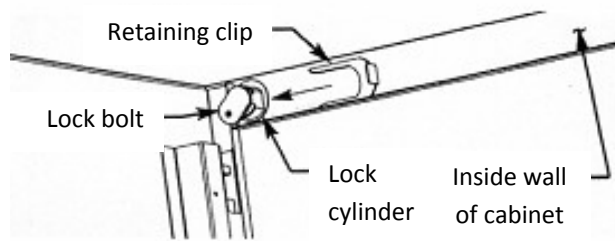

Figure 2
4. Hold lock cylinder snugly in place with one hand and secure by slipping retaining clip over cylinder inside cabinet. Retaining clip prongs should fit into grooves along the top and bottom of cylinder (see figure 2 for assembly reference).